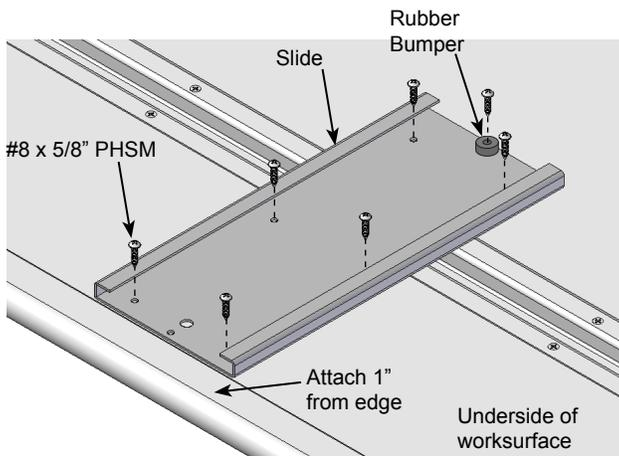

Figure 2A
3. Attach the slide using (8) #8 x 5/8" PHSM screws and tighten securely. **Figure 2A.**